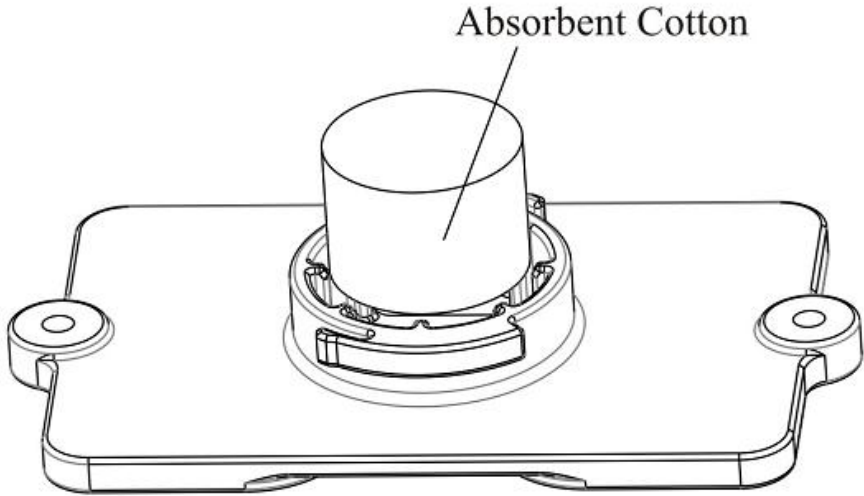

Figure 9
2.2. After solving the leakage, please replace the absorbent cotton in the controller as Figure 9 shows.